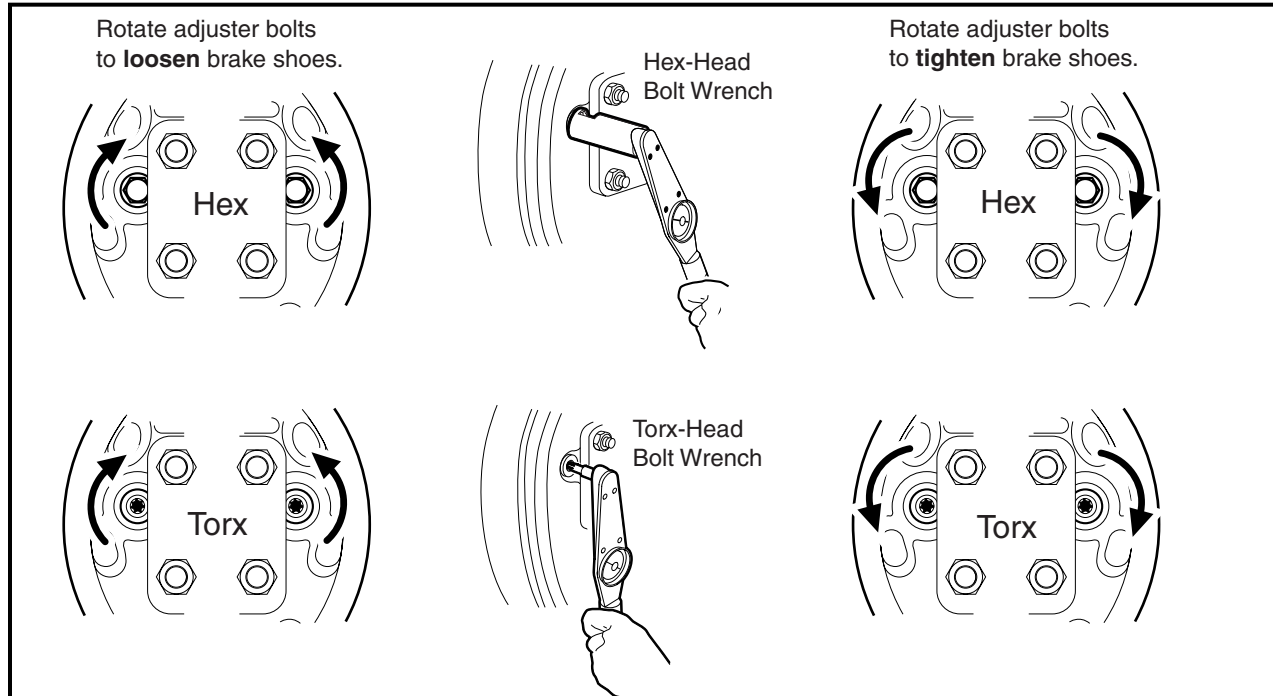

Figure 6-14 Loosen or Tighten Brake Adjusters
- 9.2. Use a torque wrench and a Torx #27 driver, or hydraulic brake adjuster (CCI P/N 102169401), and gently rotate the adjuster bolts to increase the clearance between the brake shoe lining and the brake drum (**Figure 6-14, Page 6-16**). See following **NOTE**.
18. Install the dust cover (1).
19. With the brake drum properly seated and secured, use a torque wrench with a Torx #T-27 driver, or hydraulic brake adjuster (CCI P/N 102169401) and gently adjust the clearance between the brake shoes and brake drum by turning each of the two adjuster bolt heads on the back of the brake cluster plate (**Figure 6-14, Page 6-16**). See following **CAUTION**.
2. Use a torque wrench and a Torx #T-27 driver, or hydraulic brake adjuster (CCI P/N 102169401), and gently rotate the adjuster bolts to increase the clearance between the brake shoe lining and the brake drum (**Figure 6-14, Page 6-16**). See following **NOTE**.
4. With the brake drum properly seated and secured, gently adjust the clearance between the brake shoe lining and brake drum (**Figure 6-14, Page 6-16**). See following **CAUTION**.